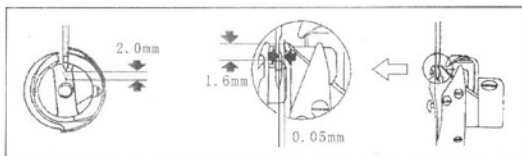

Fig. 16
24. The gap between hook assembly and needle adjustment(Fig.16)